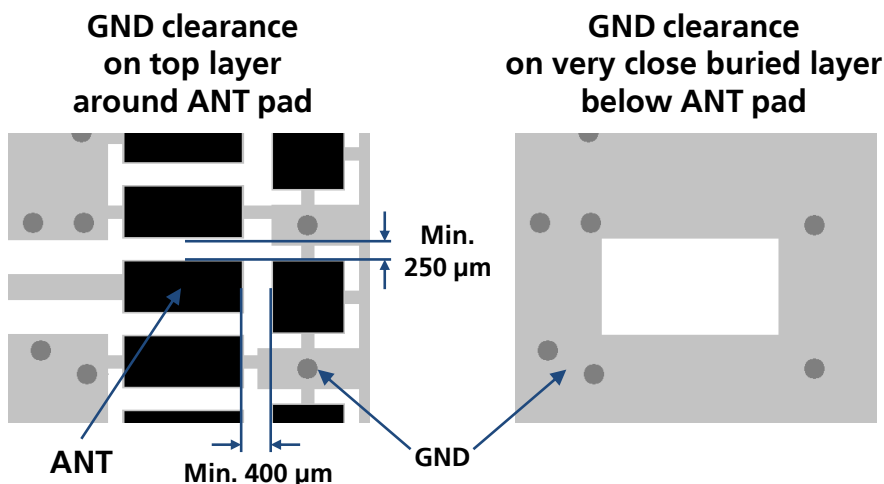

Figure 14: GND keep-out area on the top layer around ANT pad and on the very close buried layer below ANT pad
- Increase GND keep-out (i.e. clearance, a void area) around the **ANT** pad, on the top layer of the application PCB, to at least 250  $\mu\text{m}$  up to adjacent pads metal definition and up to 400  $\mu\text{m}$  on the area below the module, to reduce parasitic capacitance to ground, as described in the left picture in Figure 14
- Add GND keep-out (i.e. clearance, a void area) on the buried metal layer below the **ANT** pad if the top-layer to buried layer dielectric thickness is below 200  $\mu\text{m}$ , to reduce parasitic capacitance to ground, as described in the right picture in Figure 14